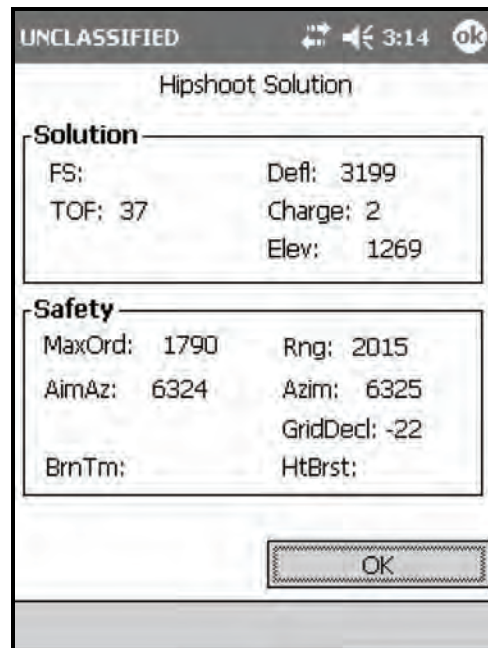

Figure 18-17. Hipshoot Solution screen.
- (8) Select Compute to process the mission.
- (9) The Hipshoot Solution screen (Figure 18-17) displays. All solution and safety data for the hipshoot mission is displayed on the Hipshoot Solution screen.